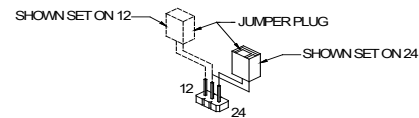

Figure 2: Jumper Plug (DP1) Settings
STEP 1: Set desired input voltage and dBA sound output level as follows (Refer to Figures 2 and 3):
MT Multitone Appliances are field set for input voltage and dBA sound output level by inserting a Jumper Plug (DP1) and adjusting a four position Switch (SW1) as shown in Table 5 and Figures 2 and 3. Use DP1 to select the desired voltage and SW1 Position 1 to select the dBA sound output level.